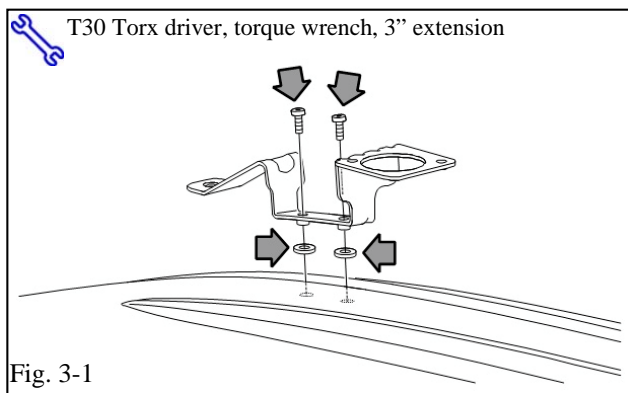

Fig. 3-1
- (a) Remove the adhesive backing & install washers on the bottom of the bracket holes (Fig. 3-1).
- (b) Install the bracket as shown (Fig. 3-1).
- !** (c) Install two M6 x 19.7mm short button head screws (with the pink thread lock); tighten to 13.3 N.m (117.7 lbf-in) (Fig. 3-1).